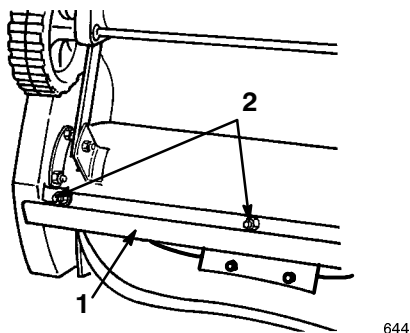

Figure 18
8. Remove the three carriage bolts and the locknuts that hold the scraper in place (Fig. 18).